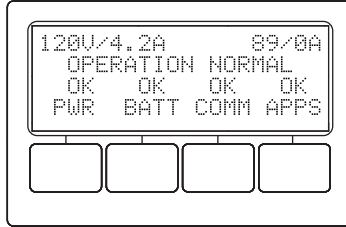

Fig. 5-15, XM3.1-HP™ Power Supply Smart Display
10. Plug the XM3.1-HP™ power supply into the outlet. Note that the XM3.1-HP power supply turns on and shows an input voltage and current. (Fig. 5-15)